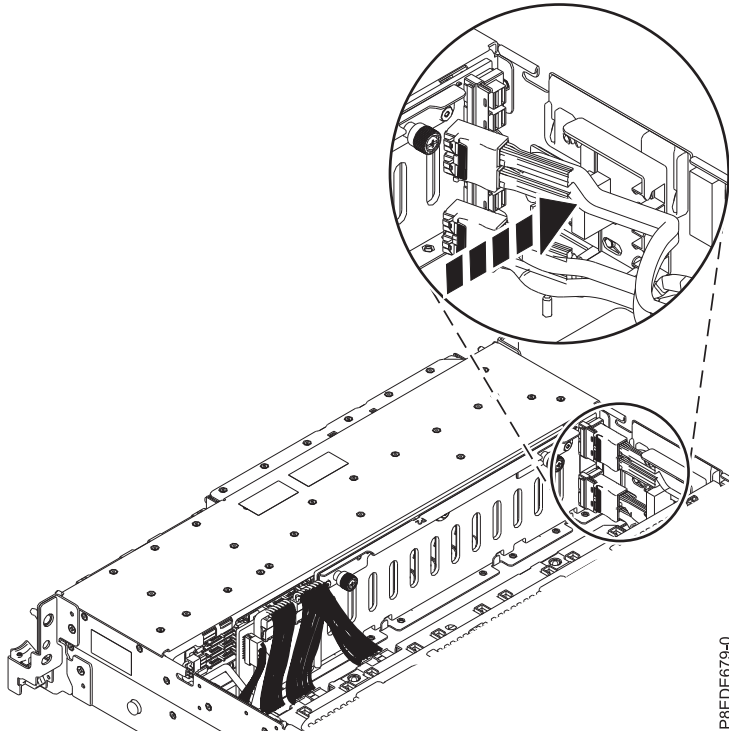

Figure 97. Reseating the front SAS cables
34. Reseat the front SAS cables into the guide block on the side of the chassis as shown in Figure 97 on page 94.